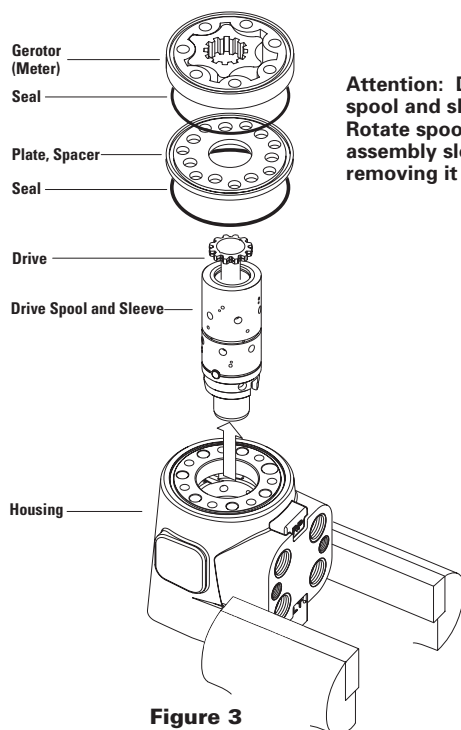

Figure 3
11. Carefully remove bearing and races, anti-cavitation valves and manual steering check valve (roll pin and ball) from bolt holes by tipping housing Gerotor side down. (see figure 3).